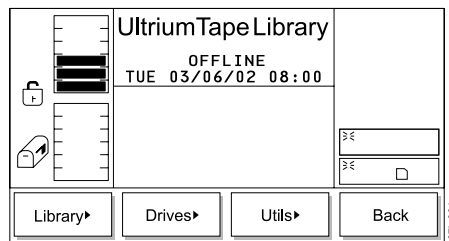

Figure 231. Setup Menu
2. Press the button below the **Setup** softkey. The Setup Menu displays (see Figure 231).